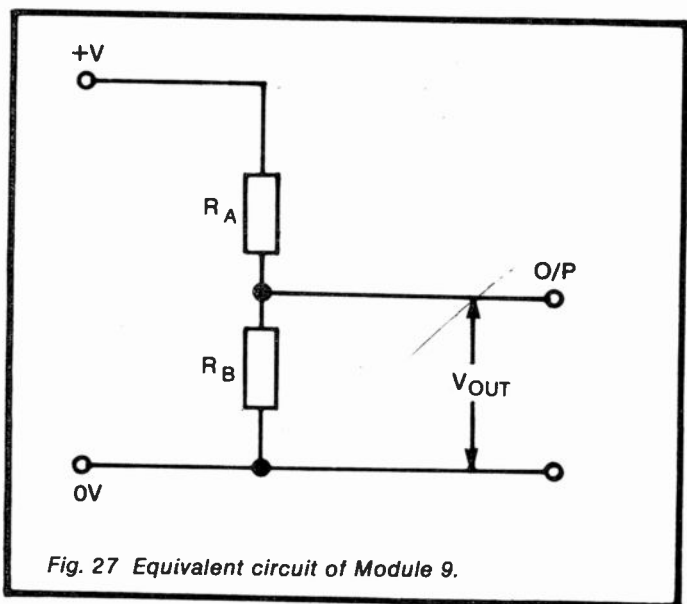

Fig. 27 Equivalent circuit of Module 9.
We can consider the potentiometer at any given setting to consist of two resistors in series (Fig.27). Assuming that no
*How it works:* R1 is a light-dependent resistor (LDR), the resistance of which decreases as the amount of light falling on it is increased. In the dark, the resistance of the LDR is about 1M. It falls to about 250 ohms in normal room lighting and to only 20 ohms in bright sunlight. R1, VR1 and R2 form a potential divider (see Fig.27) in which R1 corresponds to  $R_A$  and VR1 plus R2 correspond to  $R_B$ . Since the resistance of R1 is reduced as light increases, the potential at the junction of R1 and VR1 rises. This potential is available directly as O/P2. O/P2 can be adjusted at a given light level by varying the setting of VR1.
*How it works:* this works in the same way as Module 10, but since the LDR corresponds to  $R_B$  of Figure 27, the outputs operate in the opposite sense.